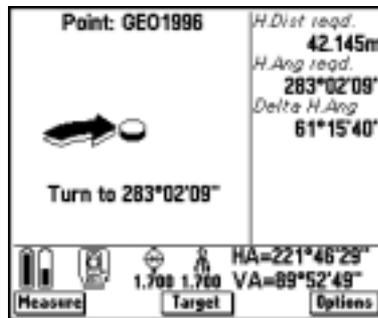

Figure 19.32 Initial screen of graphical display – stakeout
The stakeout graphical display screen appears. It displays the angle to which you should turn the instrument and the distance from the instrument to the point, together with a graphical representation of this. See Figure 19.32.
8. Use the graphical display screen, or the text display, to navigate the target to the point, as shown in Figure 19.32. For more information, see *Using the Graphical Display During Stakeout*, page 504.